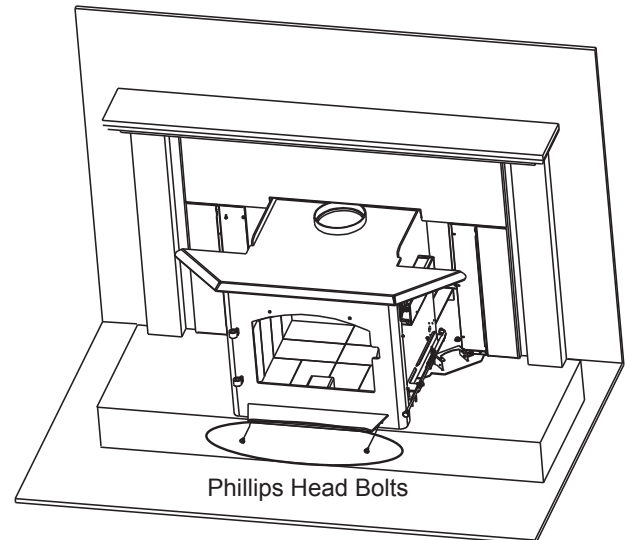

Figure 20.4
1. Slide the appliance into the outer can. Secure with Phillips head bolts previously removed from under the ash lip (**Figure 20.4**).